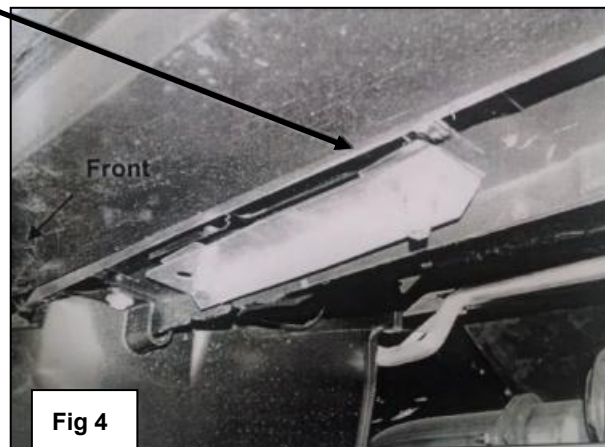

Fig 4
4	Select (1) Lock Plate, (Figure 3) . Slide the Lock Plate over the (2) Bolt Plates with the bent side toward the pinch weld. Attach the Lock Plate to the rear Bolt Plate only with (1) M10 Flat Washer, (1) M10 Lock Washer and (1) M10 Hex Nut, (Figure 4) . Tighten the Hex Nut at this time.